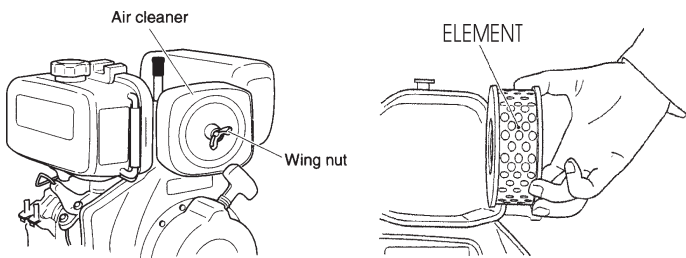

Figure 19. Engine Air Filter
1. Remove the air cleaner cover and foam filter element as shown in Figure 19.
2. Tap the paperfilter element (Figure 19) several times on a hard surface to remove dirt, or blow compressed air [not exceeding 30psi (207 kPa, 2.1 kgf/cm²)] through the filter element from the air cleaner case side.